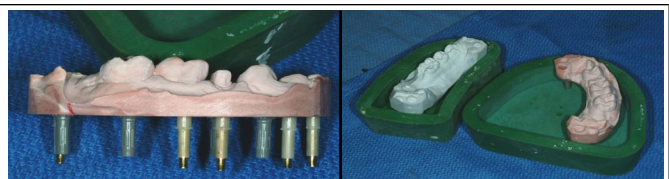

Fig. 6. Pindex and base the master and opposing casts as usual, with additional pins placed into each indexed area (these should be removable).
3. Finalize preparation and cleanse. Isolate and establish clean dry field. Soak 000 cord in Hemodent, blot excess and gently pack below the margin (3-0 silk suture may also be used) (Fig. 6). This cord is left in place during impression to control hemorrhage and gingival fluid.
Fig. 6. Double-cord technique: first cord (size 000) placed below finish line protects periodontium, controls crevicular fluid and provides vertical access for impression material.